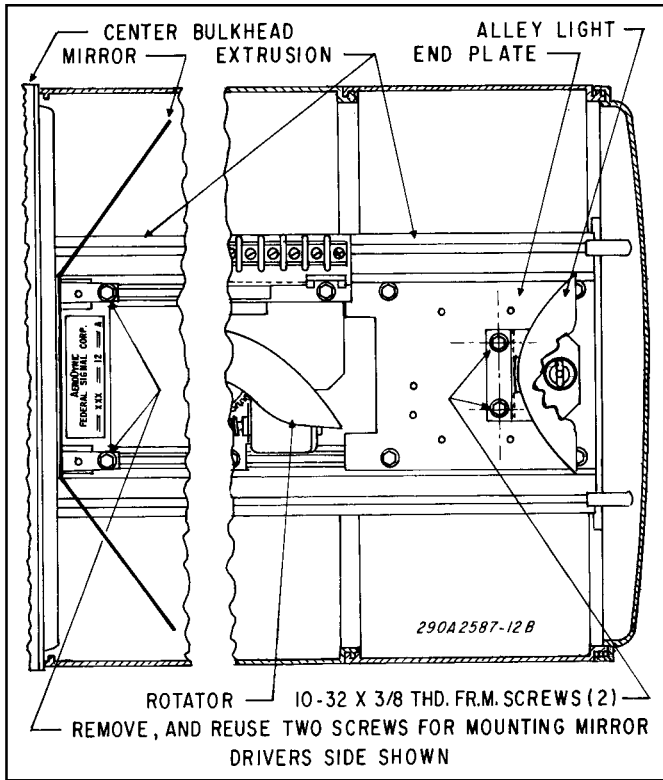

Figure 1.
2. See figure 1. Position a reflector assembly over the alley light mounting holes. Secure the alley light to the end plate using two #8-32 hex head thread-forming screws. Repeat on the other side.
5. See figure 1. Remove and retain the two #8 screws which secure the bulkhead to the extrusion. Use the two previously removed #8 screws and secure the mirror and bulkhead to the extrusion. Repeat on the other side.